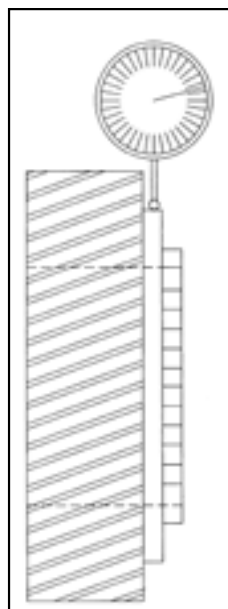

Figure 5. Gear Flatness Check
16. Install SPACERS B (38) on drive & driven shafts with bevel facing in.
17. Insert LIP SEALS (19) back to back (2 for each bearing holder) inside the BEARING HOLDERS C (12).
19. Insert Slip Sleeves (39) into LIP SEALS.
21. Grease BEARINGS (22) and insert bearings onto shafts and into BEARING HOLDERS. Be sure larger face of the inner race is facing outwards to allow for expansion.
22. Insert BEARING PUSH SLEEVE (37), LOCKWASHER (17) and LOCKNUT (16). Do not tighten lock nuts.
23. Insert TIMING GEAR A (27) with POWER LOCK (15) on drive shaft and TIMING GEAR B (28) with POWER LOCK on DRIVEN shaft. (Note: Driven gear B has a shoulder on its backside.) Do not tighten power lock bolts at this time. ** There are no timing marks on gears to align. Be sure the gears butt up against the shaft shoulder. **
24. Use a dial indicator with a magnetic base. Put magnetic base on face of FRONT END PLATE and dial indicator on front shoulder of driven gear as shown in fig 5.